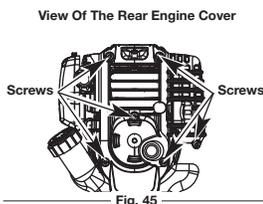

Fig. 45
1. Remove the six (6) screws on the back of the engine cover with a Flat-head or T-25 Torx screwdriver (Fig. 45).
4. Remove the engine cover (Fig. 45).